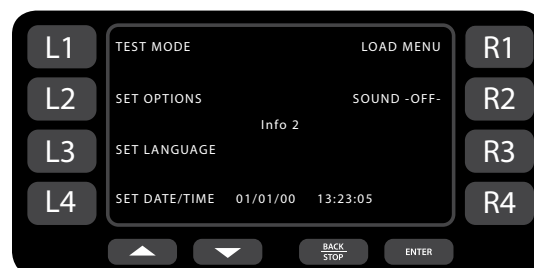
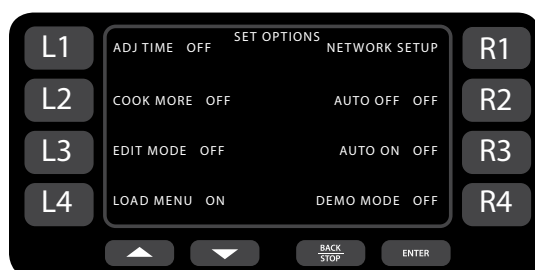

Figure 13: Info Mode Screen 2
Figure 14: Set Options Screen
From screen 2 of the Info Mode (Figure 13):
From screen 2 of the Info Mode (Figure 13), press the L3 soft key to scroll through available languages. Each time L3 is pressed, a different language is selected in the following order: English (default), Spanish, French, German, Portuguese, Italian, Russian, Greek, Polish.
From screen 2 of the Info Mode (Figure 13, page 11), press the L2 soft key to access the Set Options screen (Figure 14). When prompted, enter the password **9 4 2 8** and press the Enter key.
From screen 2 of the Info Mode (Figure 13, page 11), press the L4 soft key to access the Set Date/Time screen (Figure 15). From this screen, the real time, “auto-on” time, and “auto-off” time can be set.
An accurate real time is critical for using “auto-on” and “auto-off.” When these features are enabled from the Set Options screen (Figure 14), the oven automatically turns on and/or off at the specified times.
IMPORTANT: For auto-on and auto-off to be active, they must be enabled from the Set Options screen (Figure 14).
1. Go to screen 2 of the Info Mode (Figure 13, page 11).
1. Enable it from the Set Options screen (Figure 14, page 12).